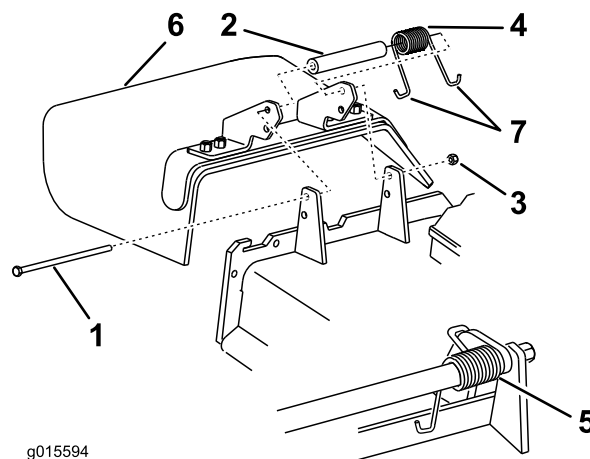

Figure 72
- Remove the locknut, bolt, spring and spacer holding the deflector to the pivot brackets (Figure 72). Remove the damaged or worn grass deflector.
Note: Make sure one **J** end of the spring is installed behind the deck edge before installing the bolt as shown in Figure 72.
- Install the bolt and nut. Place one **J** hook end of the spring around the grass deflector (Figure 72).